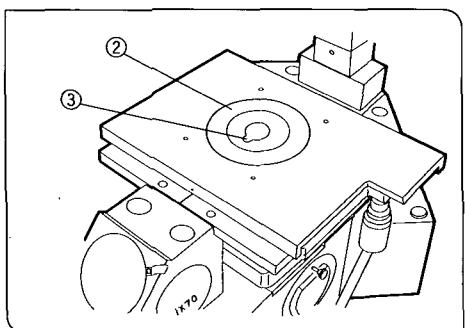

Fig. 12
- 3. Insert the stage insert plate ② into the stage. (Fig. 12)
- ◎ To facilitate confirmation of the objective front lens position and application of oil for oil immersion objectives, rotate the stage insert plate so that the keyhole ③ will be facing the front. (Fig. 12)